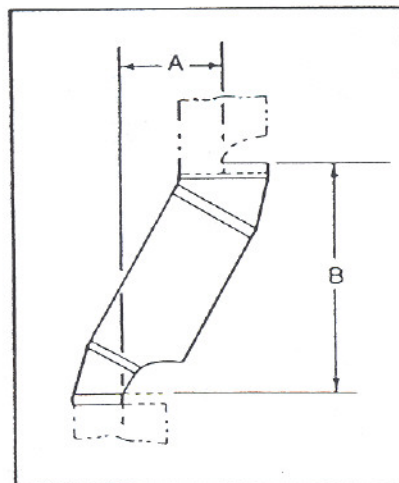

Figure 12
Figure 12 and Tables 1 or 2 enable selection of the appropriate chimney components when using Offsets and Returns.
1. Determine amount of offset required to extend the chimney through a wall or around an obstacle. See Figure 12, dimension "A".